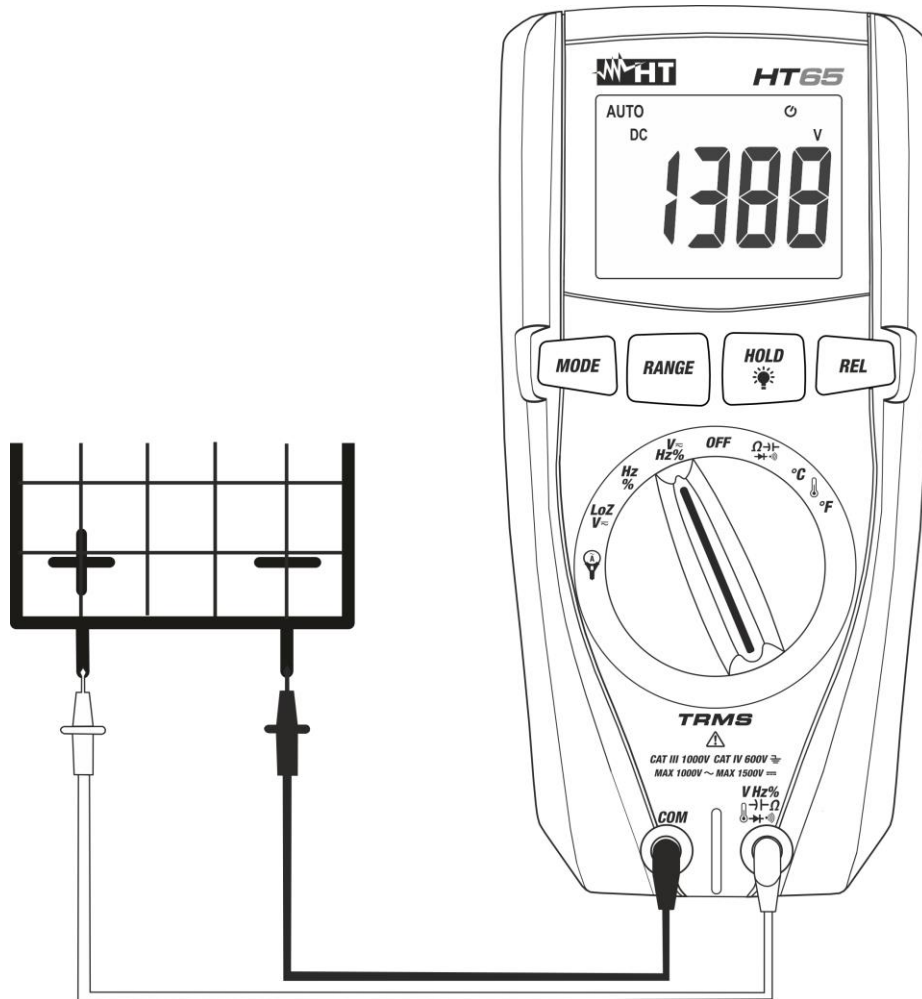
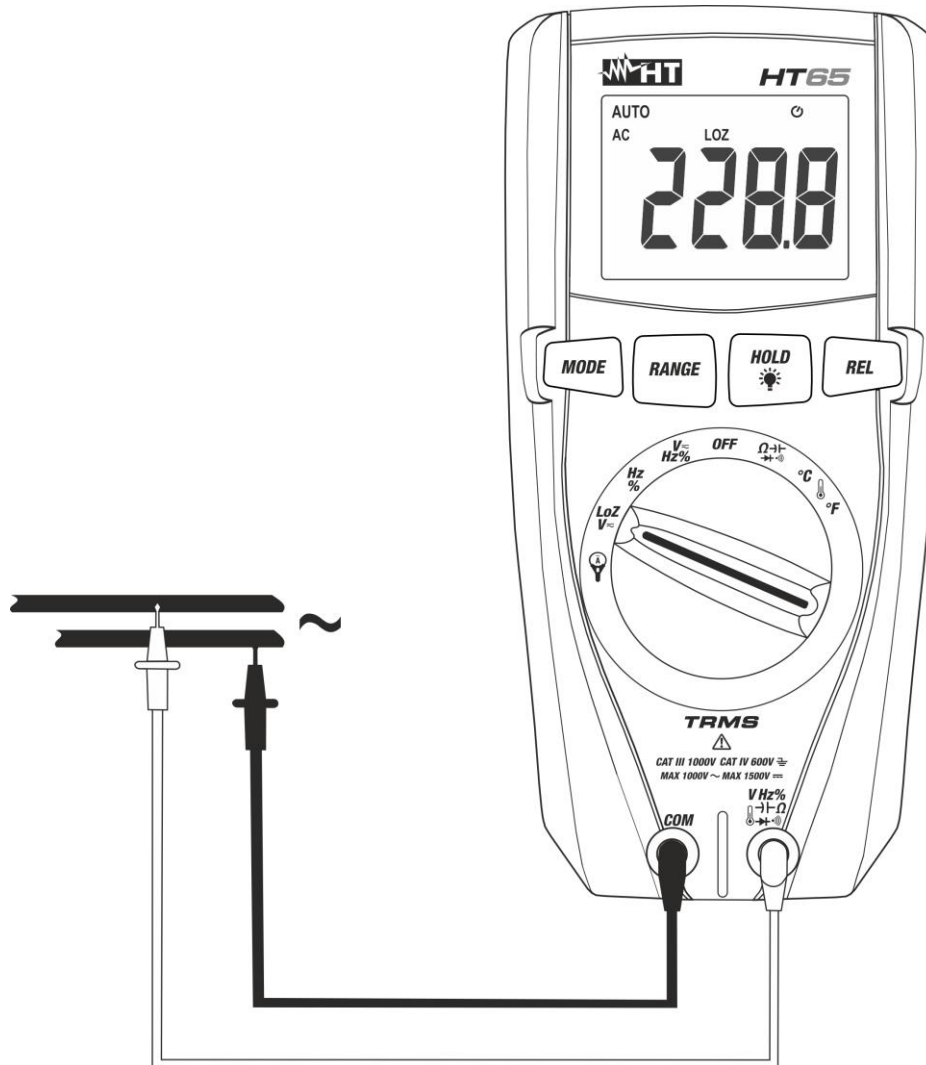

Fig. 2: Use of the instrument for DC Voltage measurement
Fig. 4: Use of the instrument for AC/DC voltage measurement with low impedance (LoZ)
4. Position the red lead and the black lead respectively in the spots with positive and negative potential of the circuit to be measured (see Fig. 2). The display shows the value of voltage.
6. When symbol "-" appears on the instrument's display, it means that voltage has the opposite direction with respect to the connection in Fig. 2.
4. Position the red lead and the black lead respectively in the desired spots of the circuit to be measured (see Fig. 4) or in the spots with positive and negative potential of the circuit to be measured (see Fig. 2). The display shows the value of voltage.
6. When symbol "**-**" appears on the instrument's display, it means that voltage has the opposite direction with respect to the connection in Fig. 2